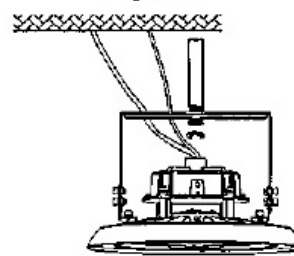

Figure 10
3. Re-screw the nuts. (figure 10)